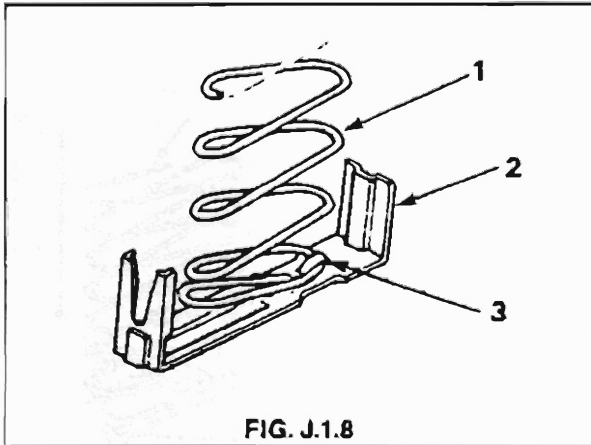

FIG. J.1.8
- Remove the magazine follower from the spring by unlooping the spring through the retaining loop on the underside of the magazine follower. See Fig. J.1.8.